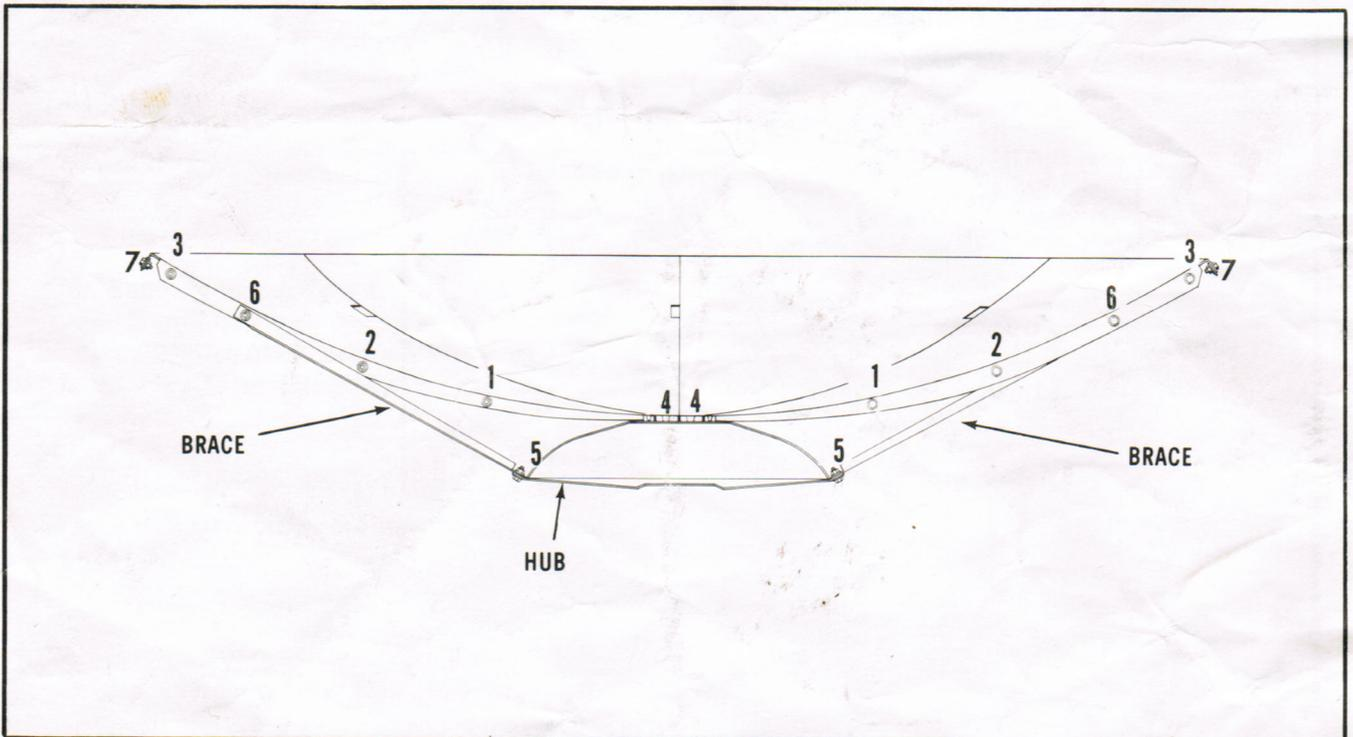

Figure 4. Cross Section View of Reflector
STEP-BY-STEP BOLT TIGHTENING INSTRUCTIONS FOR FIGURE 4
Each panel and brace is secured by hardware at the seven locations identified in figure 4. To assure optimum shape of the reflector, each panel and brace should be tightened in the sequence described below.
1. Starting at any panel, tighten each of the bolts at location 1 in figure 4, working from panel to panel around the dish.